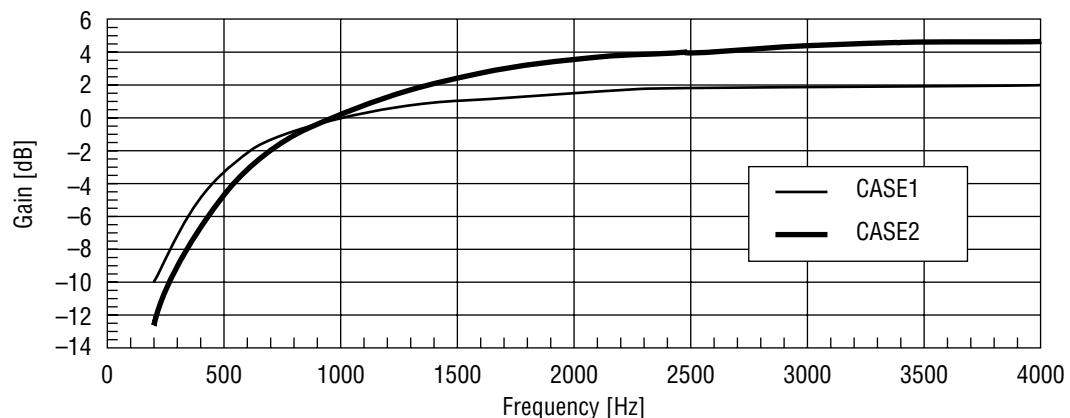

Figure 4 Frequency Response of Slope Filter
- B1 .... Slope Filter's frequency response select; 0/CASE1,      1/CASE2 Refer to Figure 4.